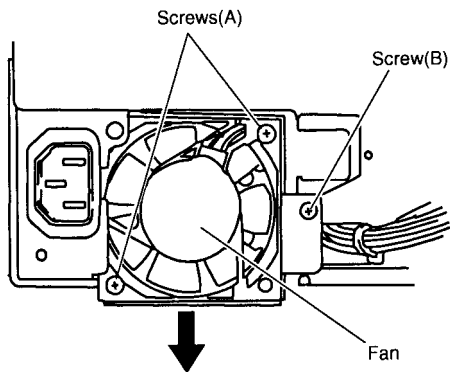

Fig. 4-35
- 4) Remove 2 screws (A), screw (B), and Fan, as shown in Fig. 4-35.